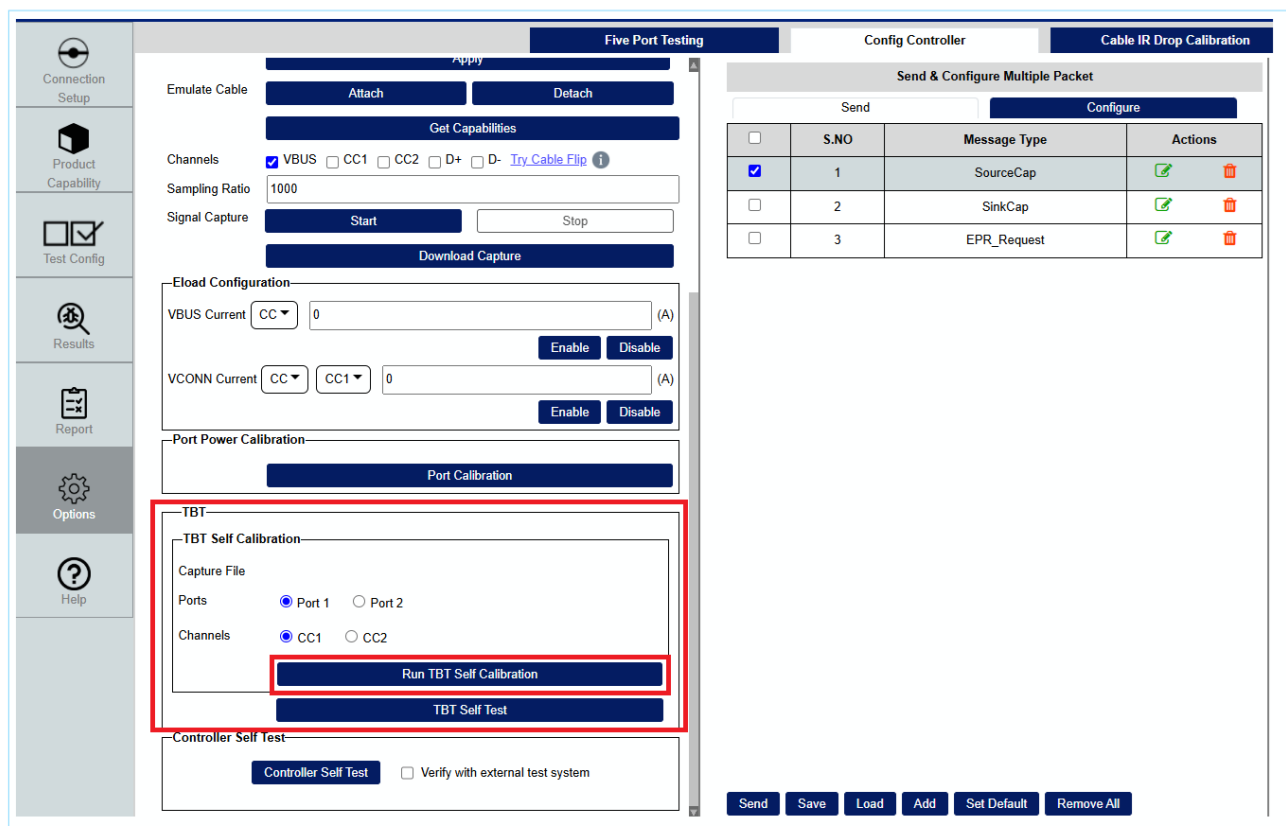

FIGURE 7.25: PERFORM THUNDERBOLT SELF-CALIBRATION
1. Go to the *Options* screen (see Section 8) and click on the **Config Controller** tab. In the Configure panel, select to enable Port 1 and Channel CC1 and then click on the **Run TBT Self Calibration** button as shown in Figure 7.25.